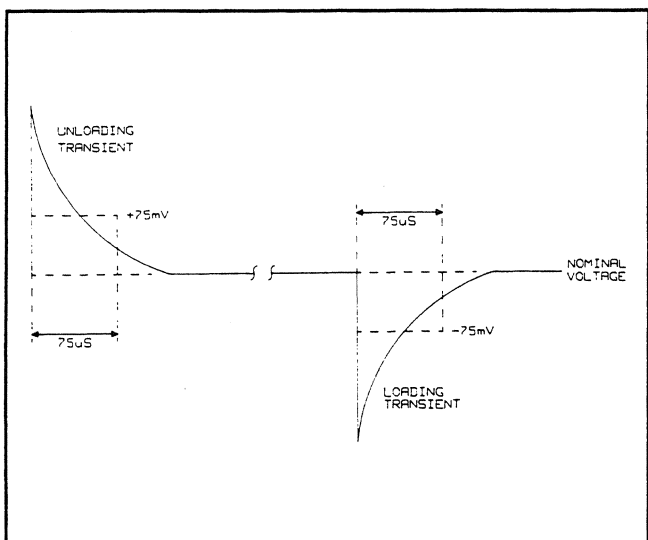

Figure 3-9. Transient Response Waveform
h. Adjust the oscilloscope trigger level for a stationary waveform as shown in Figure 3-9 and check that the loading transient is within 75 mV of its final value in less than 75 μ s.
i. Change the oscilloscope settings to + slope and repeat steps g and h for the unloading transient (see Figure 3-9).